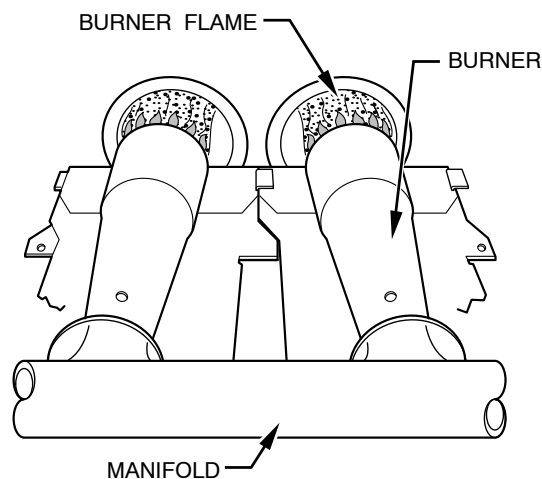

Fig. 13 - Burner Flame
- m. Look through sight glass in burner enclosure and check burner flame. Burner flame should be clear blue, almost transparent. (See Fig. 13.)